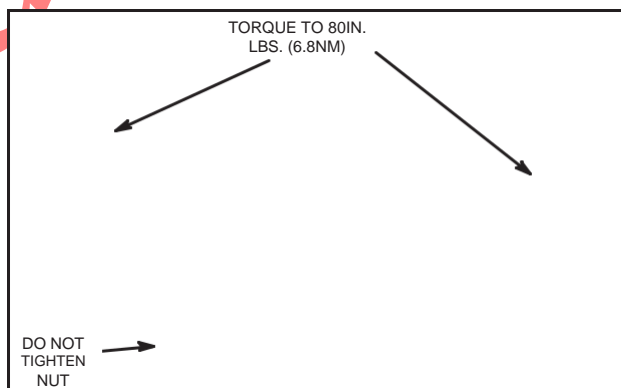

Fig. 20 – Install Governor Control Bracket
1. Install governor control bracket and assemble governor lever to governor shaft, Fig. 20. **DO NOT** tighten nut at this time.